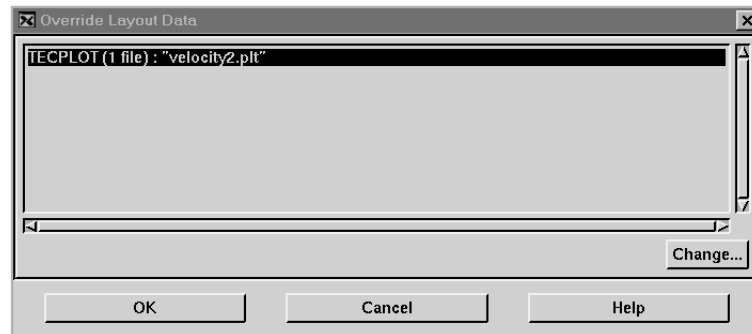

Figure 6-13. The Override Layout Data dialog.
4. The Override Layout Data dialog appears, as shown in Figure 6-13.
9. Click OK to open the layout file with the specified data files (Figure 6-13).